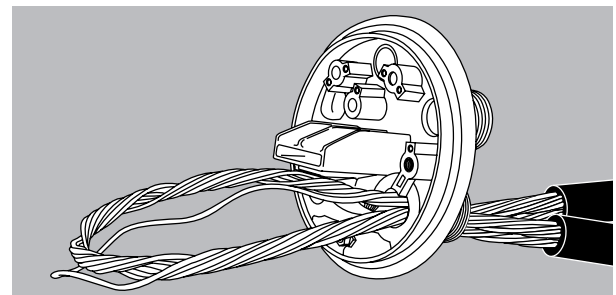

FIGURE 3
3. Feed the uncut express buffer tubes and cable butts through the end plate express opening. (Figure 3)